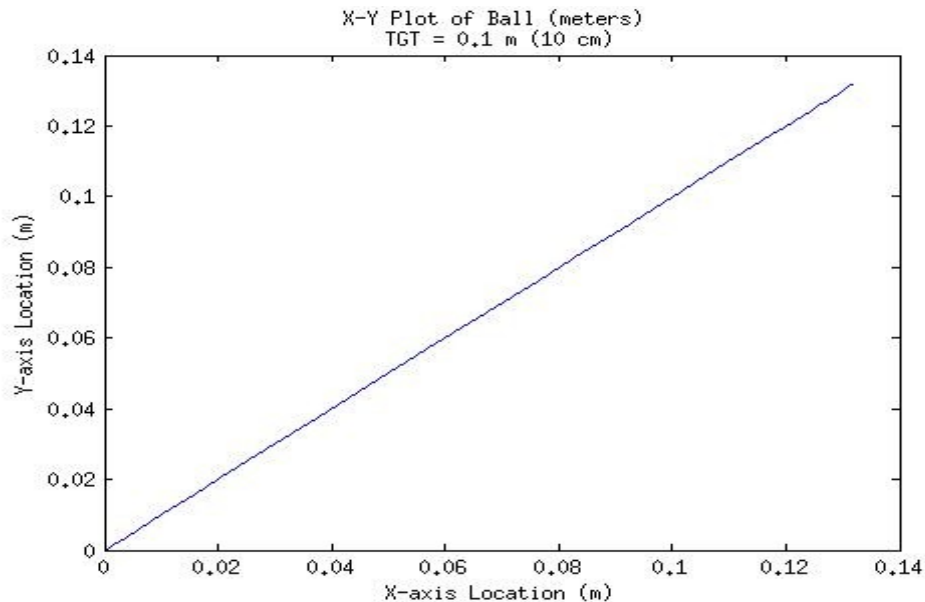
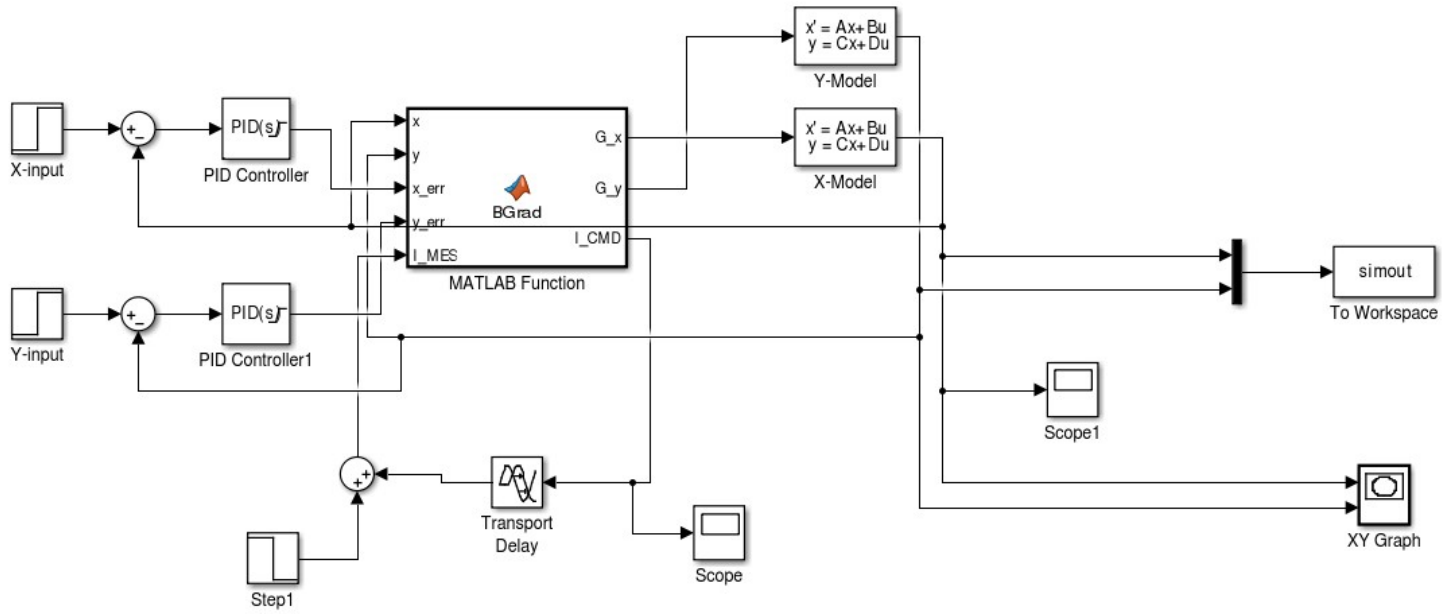

Figure 2 – XY Plot of ball. TGT  $(x,y) = (0.1,0.1)$
Figure 1
- **Deliverable 1:** Refine Simulink model of the control system. See Equation (1) and (2) for the state-space equations for the ball bearing. Two equations are used (x-axis and y-axis). I did this in order to be able to use a direct measurement (position) as a feedback state. Equation (3) is the magnetic field gradient used to compute the forced induced on the sphere.
- Figure 1 shows the current Simulink model. Figure 2 shows the path taken by the test object (small magnetic sphere weighing 1 gram in water).